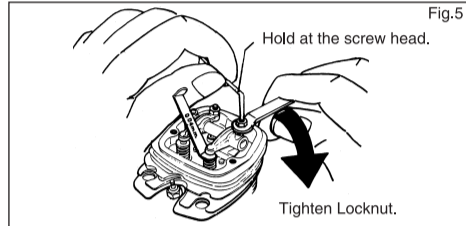

Fig.5
4. Re-tighten locknut while holding adjusting screw stationary. (Fig.5.)